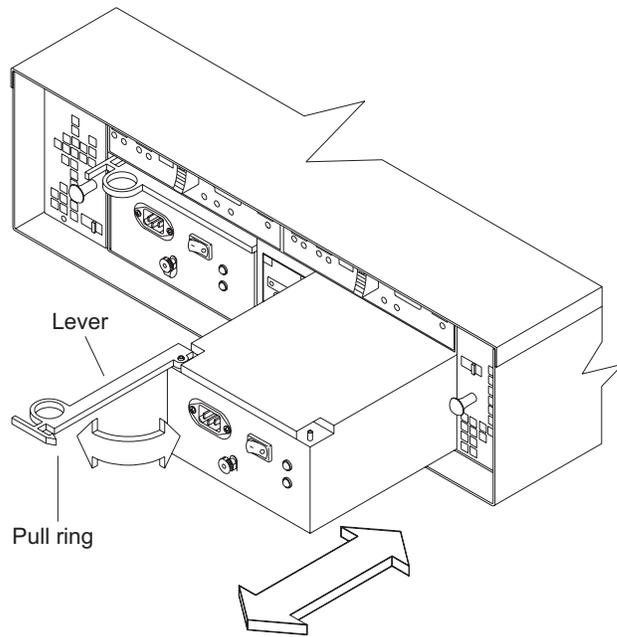

Figure 14. Removing a power supply
2. Pull the lever open 90° and remove the power supply, as shown in Figure 14 on page 39.